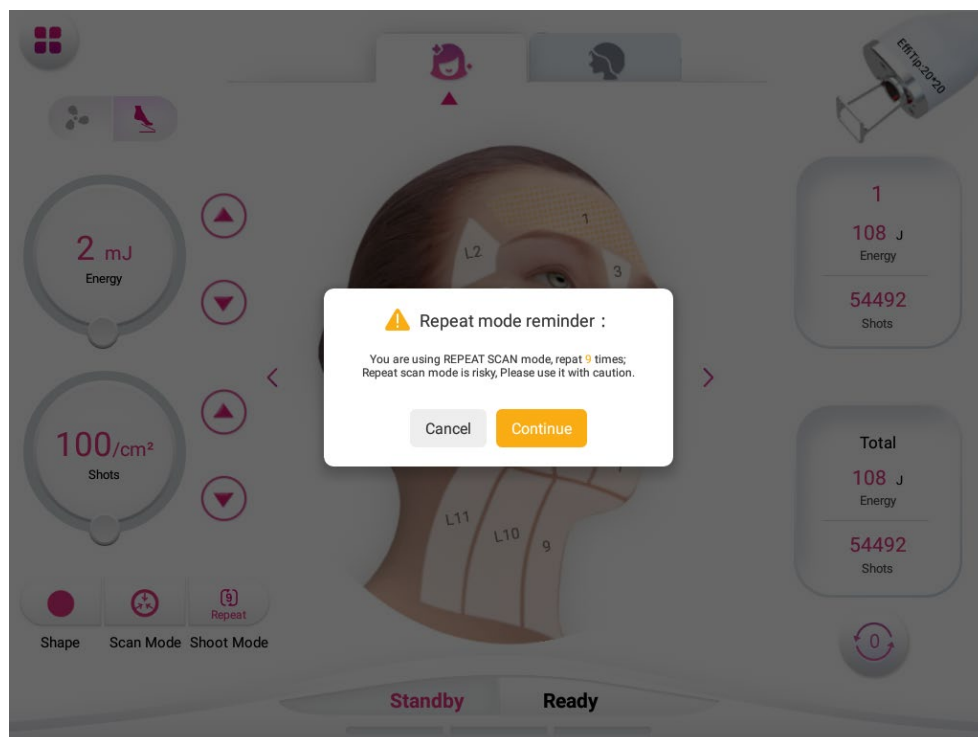

Figure 3-5-2
⑪**Part energy:** record the accumulated energy and shots of the selected part.
⑫**Total energy:** record the total energy of all treatments during the power is on.
⑧⑨**Face, scalp:** switch to face or scalp treatment
⑩**Applicators:** the type of treatment tip is using
⑬**Clear:** Clear the total energy manually.
⑭⑮**Standby / Ready:** In ready, trigger the footswitch, laser shots; In standby, no laser shots. When clicking Standby, a reminder box will pop up if the device is in repeat mode. As shown in Figure 3-5-2